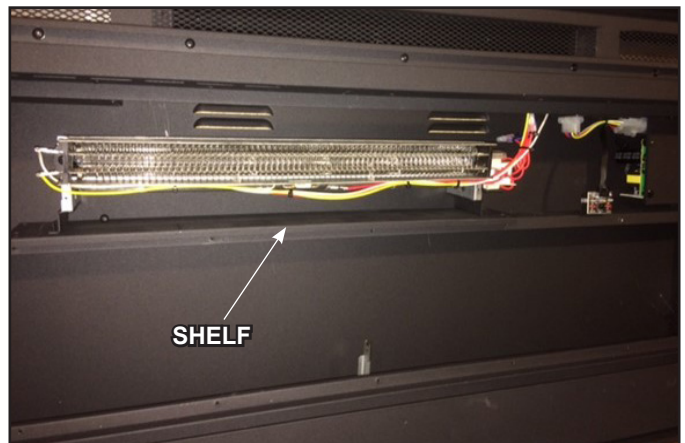

Figure 26. Remove Blower/Heater
28. Drop the Blower/Heater module down on the shelf. See Figure 26.